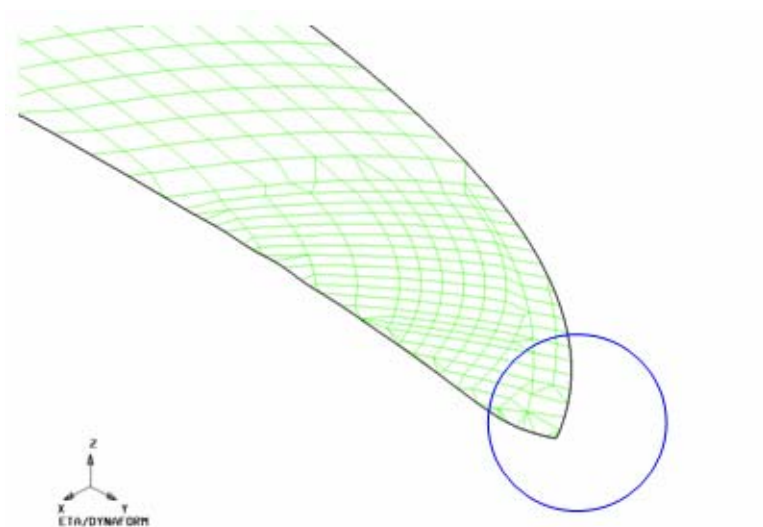

Figure 6.1.43 Sharp Corner
1. After entering the desired corner radius, click on the CORNER SMOOTH button to highlight the boundary line of the part such as illustrated in Figure 6.1.43.